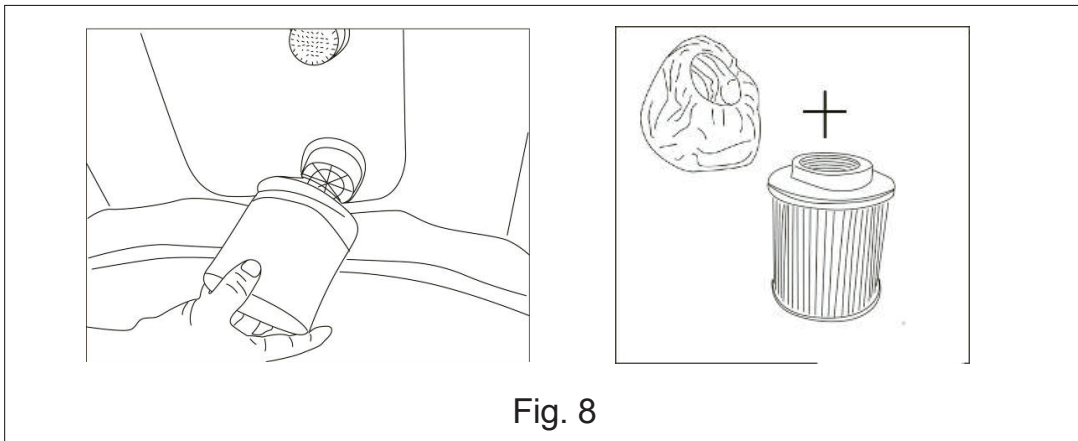

Fig. 8
Step8: Screw the filter cartridge onto the two water inlets (there are two inlets on the spa wall) on the spa wall by turning it clockwise (Fig. 8).